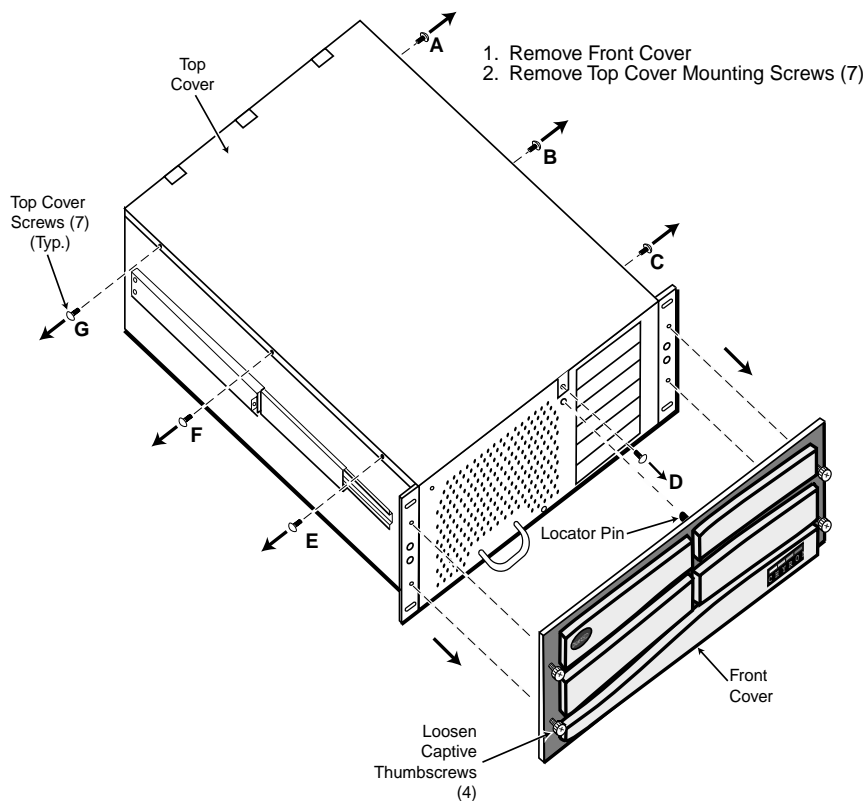

Figure 4-1. Removing Securing Screws
- [] 4. Refer to Figure 4-1. Loosen the four (4) captive thumbscrews that secure the Front Cover to the chassis, as shown.
- [] 6. Remove the seven (7) screws that secure the chassis Top Cover (one in front, three on each side). Retain the hardware for reinstallation.